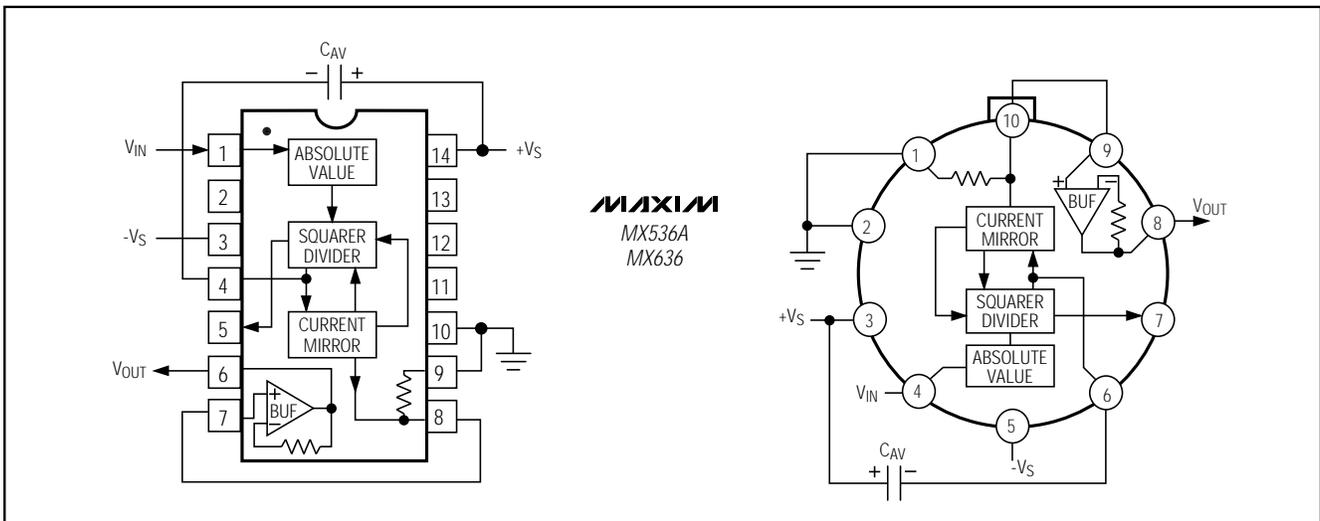

Figure 2. MX536A/MX636 Standard RMS Connection
- Note 1:** Accuracy is specified for 0 to $7V_{RMS}$, DC or 1kHz sine-wave input with the MX536A connected as in Figure 2.
Standard Connection (Figure 2)